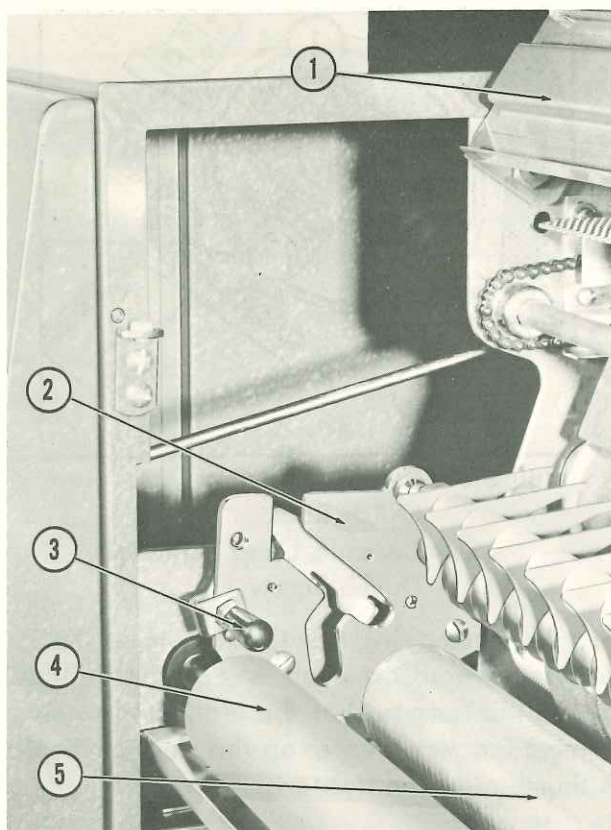

Figure 3. Developer Rolls Installation, View 1
To install the rolls in the slotted developer roll brackets, follow the procedure below and refer to figures 3, 4, and 5.
- a. Lift the front print tray (1, figure 3) and swing it back to the raised position as shown.
b. Make sure both nite latches (one at each side) are in the down position as shown in figure 3. If the latch (3) is locked in the up position, pull out on the black handle and move it down.